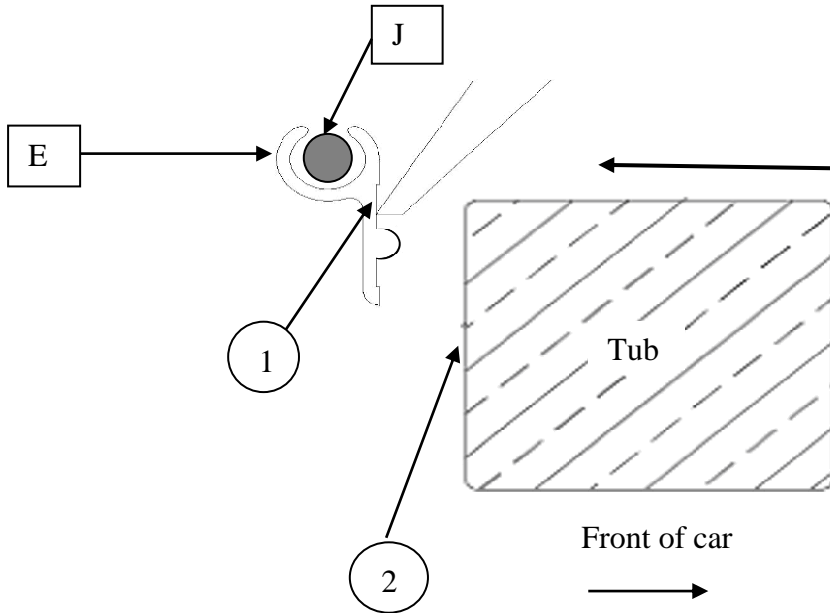

Figure 1
- STEP 2** Rest the aluminum rope track on the side rails, and push forward to the vertical face of the tub. Figure 1